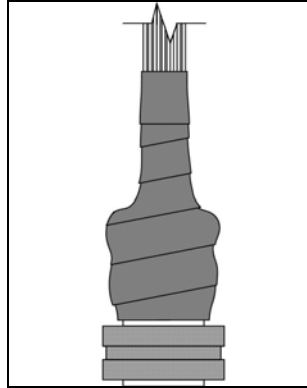

Figure 2
- 3.3.3** Continue to apply the StretchSeal Tape with a 50% overlap until the connector rear accessory is covered and at least one complete wrap of StretchSeal Tape has been installed on the harness bundle. . (see figure 2)